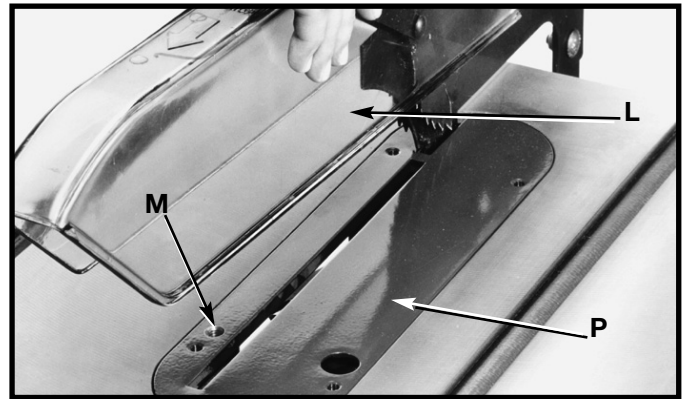
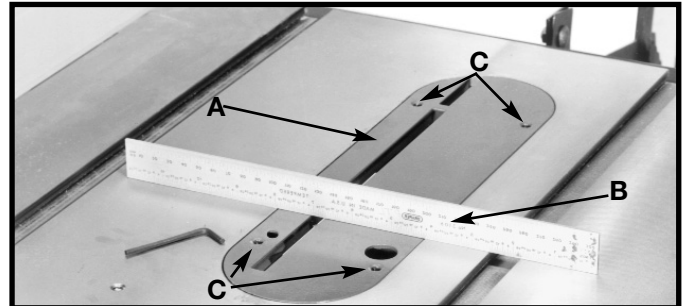

Fig. 26
Fig. 26A
Lower saw blade and install table insert (P) Fig. 26, in the saw table. **IMPORTANT:** When installing the table insert, make certain to hold on to the blade guard (L). The insert will automatically release the holding action on the splitter and lower the blade guard when the insert is installed in the table opening.
Insert M5x20mm screw into hole (M) Fig. 26 and tighten.
Place a straight edge (B) Fig. 26A across the table at both ends of the table insert (A) as shown in Fig. 26A.
If an adjustment is necessary, loosen screw (M) Fig. 26 and turn the adjusting screws (C) Fig. 26A, as needed, with allen wrench supplied.